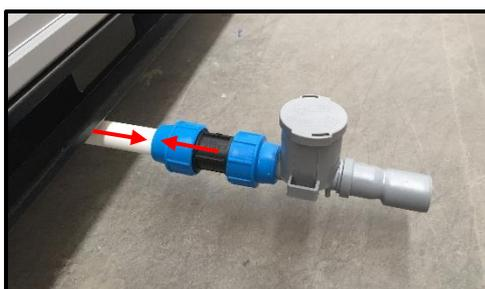

Fig. 168
2. Connect the siphon to the condensation outlet pipe (Fig. 168)